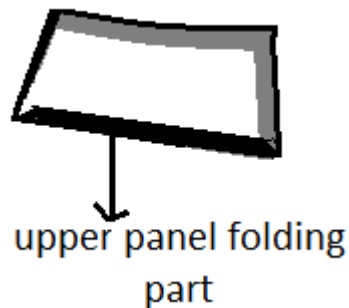

Fig. 5:4 upper panel fold
11. Stitch as shown in (*fig. 5:5 II.*)